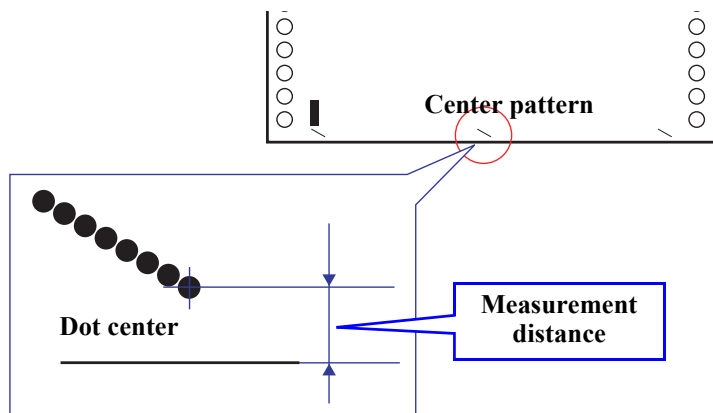

Figure 5-37. Bottom margin check pattern
6. Measure the distance (mm), from the bottom edge of the paper to the center of the bottom dot of the printed pattern, as shown in Figure 5-37. If it is within the specified range, go to Step 9.